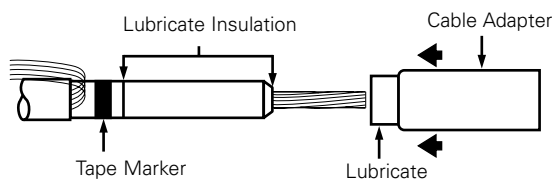

Figure 20. Line illustration of insulation cable adapter.
- Slide small end of cable adapter over cable using twisting motion until small end is flush with tape marker. (Refer to Figure 20.)